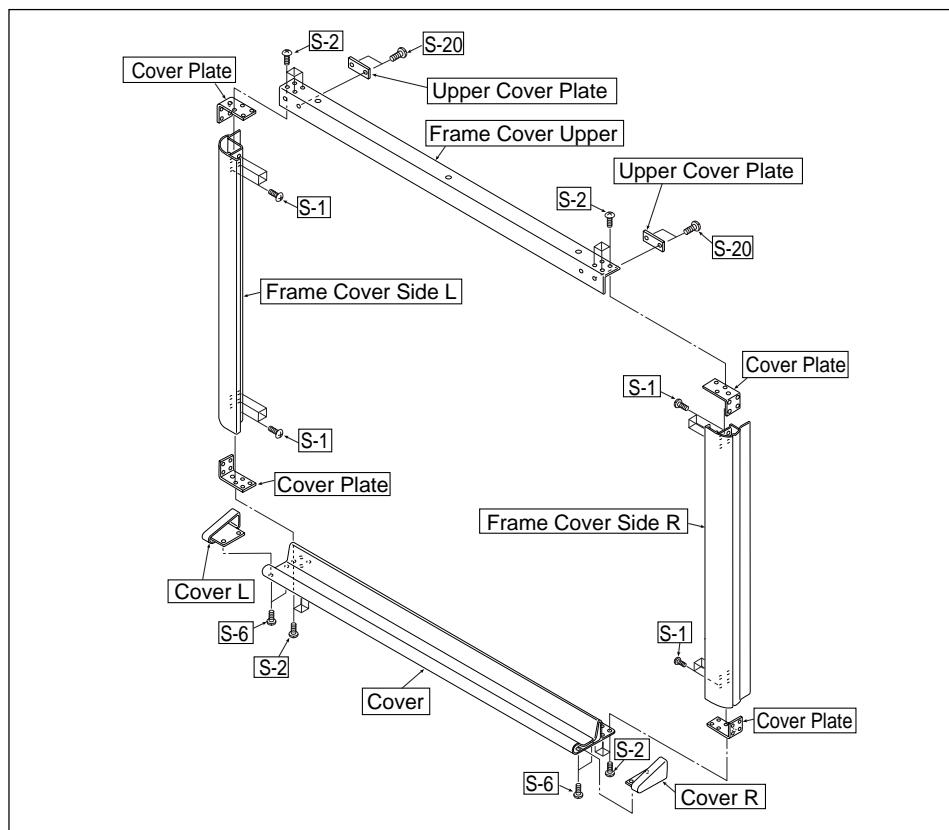

Fig. 9
6) Disassemble the Frame Cover Section. (See Fig. 9.)
Remove the "S-1" and "S-2", "S-6", "S-20" screws shown in Fig. 9 and disassemble the Frame Cover.